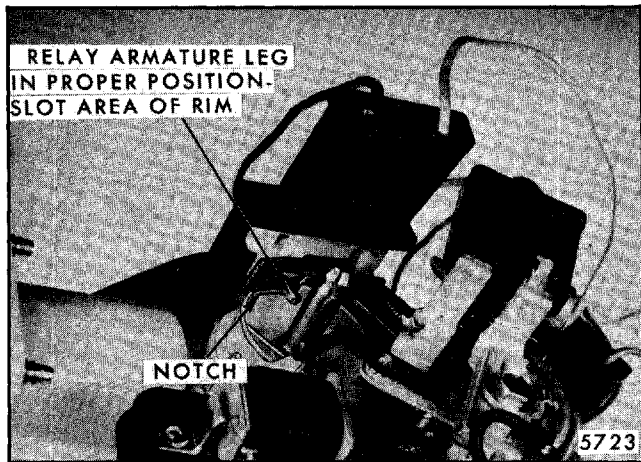

Fig. 2-141-Pump in Idling Position
1. A leg on the relay armature rides up a ramp located on the outer surface of the ratchet gear rim. When the leg reaches the top of the ramp, it moves over the top edge of the ratchet gear rim. This action allows the ratchet gear pawl to re-enter the armature opening preventing further rotation of the ratchet gear until the next time the relay coil is energized from the washer button. (Refer to Figure 2-141 for position of armature leg while pump is idling.)